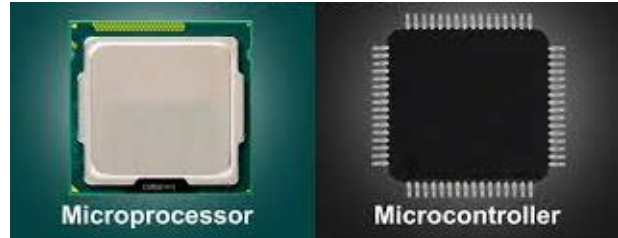

Fig. 1.10: Microprocessor/controller
- 2. Microcontroller/Processor:** The sensors are connected to a microcontroller (shown in Fig. 1.10) or processor, which acts as the brain of the plumbing system. It receives data from the sensors and processes this information to make decisions or trigger an appropriate action. The microcontroller/processor can be a dedicated hardware unit or part of a smart plumbing system's central control unit.